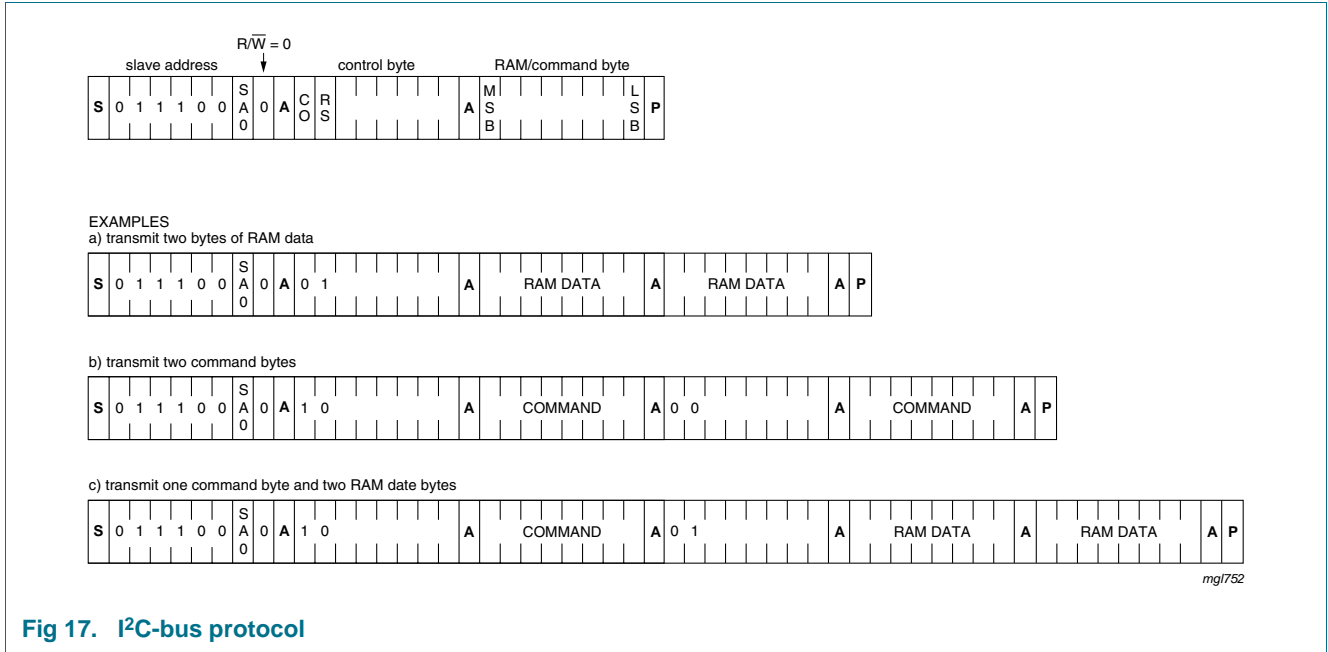

Fig 17. I2C-bus protocol
The I2C-bus protocol is shown in Figure 17. The sequence is initiated with a START condition (S) from the I2C-bus master which is followed by one of two possible PCF85132 slave addresses available. All PCF85132 with the corresponding SA0 level acknowledge in parallel to the slave address, but all PCF85132 with the alternative SA0 level ignore the whole I2C-bus transfer.